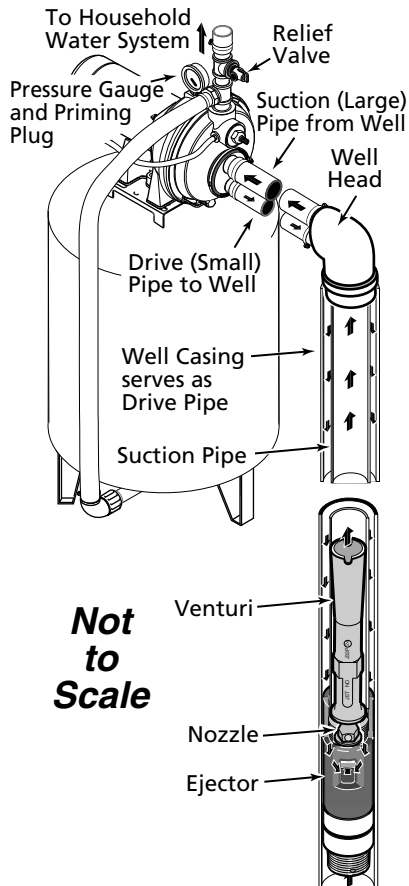

Figure 9 – 2" (Single Pipe) Deep Well
New Deep Well 2" Well (Figure 9)
2. Assemble Berkeley ejector kit BK4840 (sold separately), well piping, and well head adapter according to the instructions provided with the ejector package (See Figure 9.) Use galvanized drop pipe with turned couplings to allow proper flow. Follow the instructions included with the kit in order to match the nozzle and venturi to your well conditions.